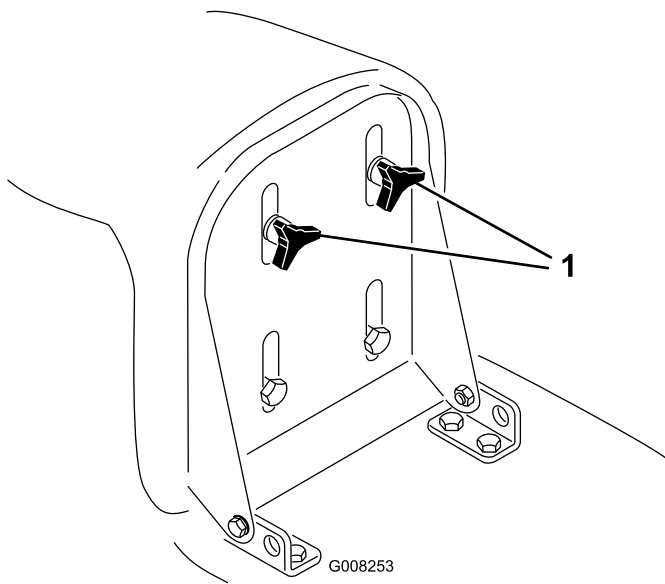

Figure 7
- Raise the seat and loosen the adjustment knobs (Figure 7).